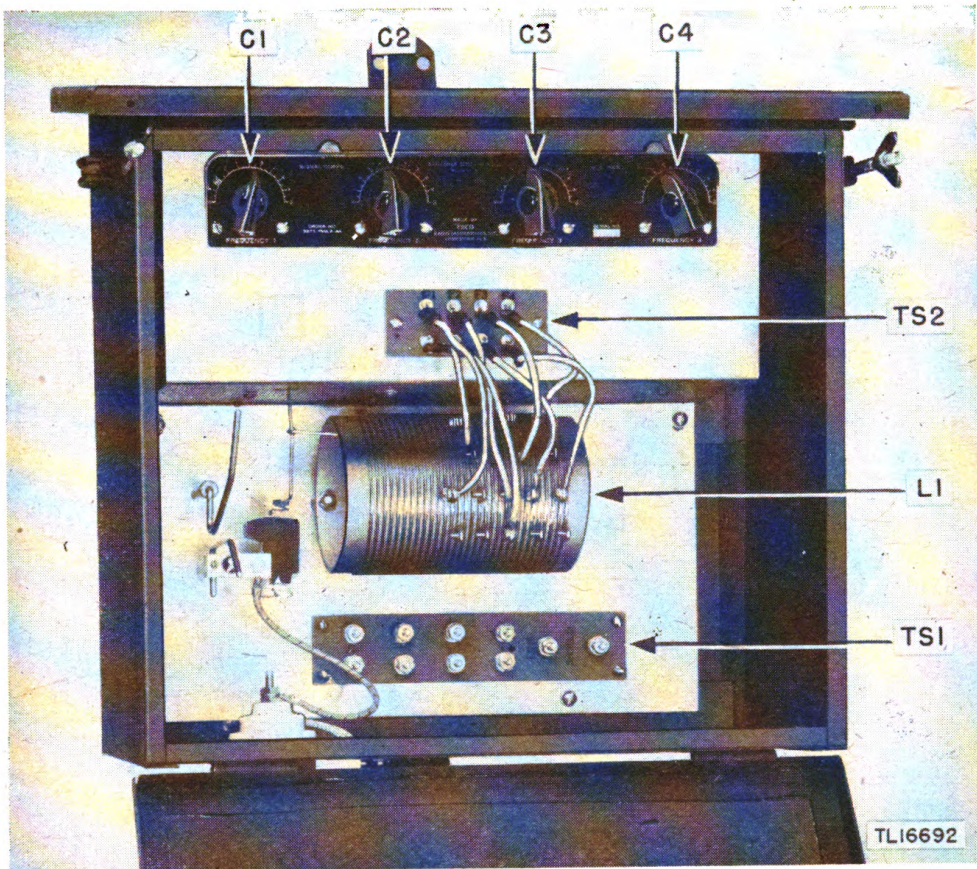

Figure 15. Antenna Tuning Unit BC-619-A—cover open.
(2) Loosen the two wingnuts to unlatch front cover, and allow the cover to swing open on its hinges.
(3) Disconnect external leads from terminal strip TS1 (fig. 15).
(4) Disconnect lead from the terminal on top of the feed-through insulator (fig. 15).
(5) Remove the six bolts that secure the tuning unit to the housing, and remove the tuning unit.
(6) Remove the lacing from the cables on the back of the tuning unit, and spread the wires apart to aid in moisture removal and varnishing.
d. **MASKING.** (1) Tighten down all terminal nuts and screws to insure good electrical contact after applying the varnish.
d. Insert one end of an amphenol coaxial cable through one of the two knock-out holes in the bottom of the tuning unit, and terminate it at the main terminal strip on the tuning unit. Connect the center conductor of the coaxial cable to the LINE terminal of terminal strip TS1 and the outer conductor or shield to the SHIELD terminal (figs. 15, 17, and 18).